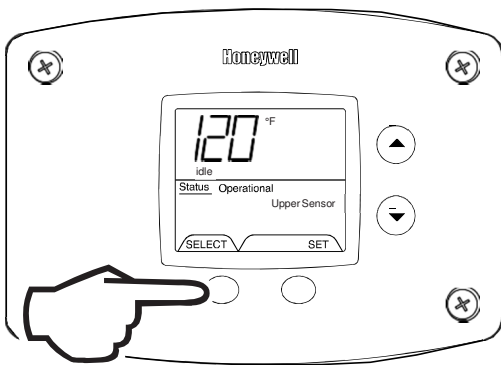

Fig. 46
2. For water heaters using two temperature sensors, pressing the 'Select' button again displays the Upper Sensor temperature reading. 'Upper Sensor' will be displayed in the lower right side of the status window of the water heater display (Fig. 46).